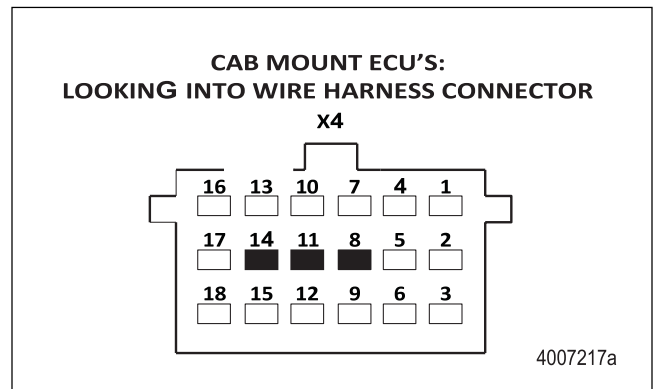
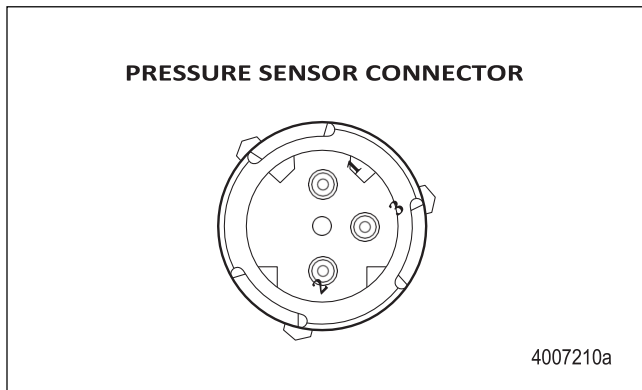
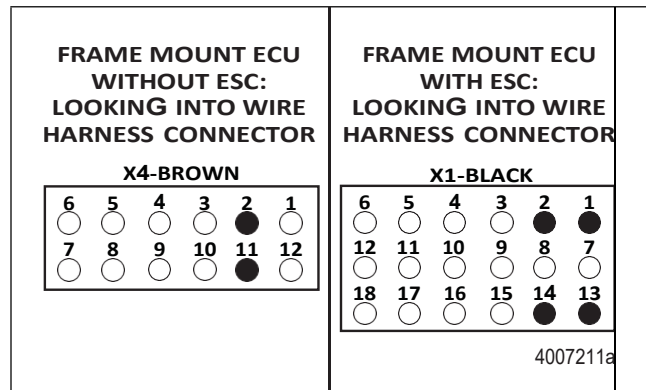

Figure 3.25
Figure 3.26
Figure 3.28
- Take measurements at the pressure sensor harness connector. Figure 3.25, Figure 3.26 and Figure 3.28.